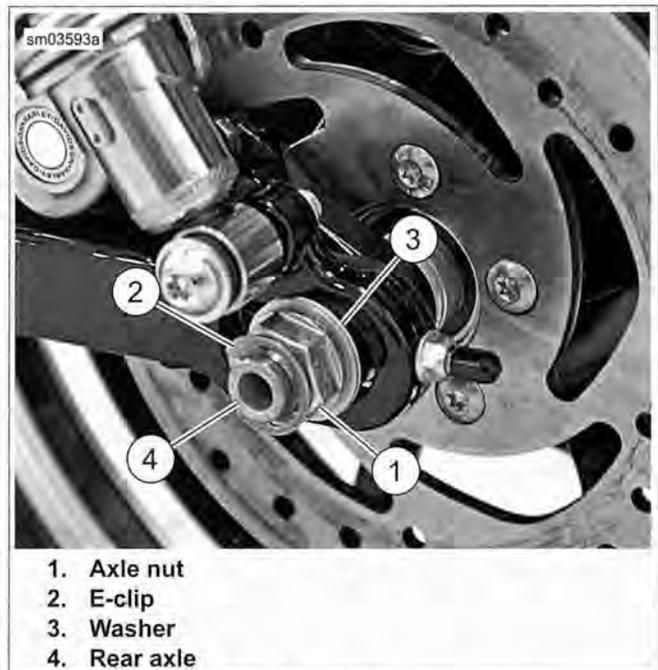

Figure 2-11. Rear Wheel Mounting
4. See Figure 2-11. Remove E-clip (2), axle nut (1) and washer (3).
6. Gently tap end of axle (4) with a soft hammer to loosen. Pull axle free of rear fork assembly.